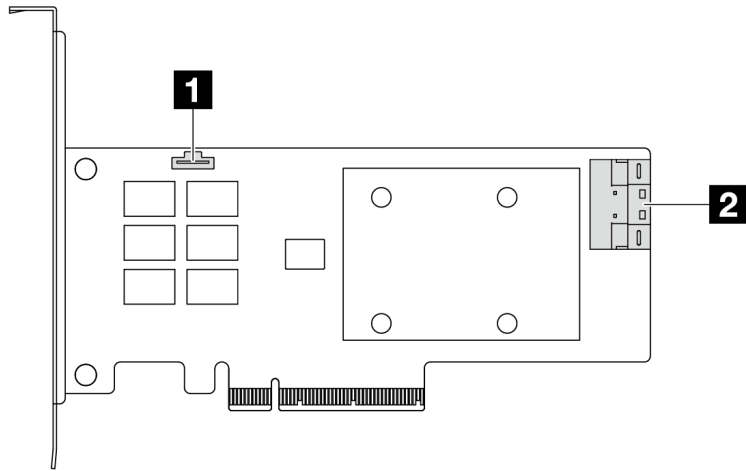

Figure 220. A Gen 4 8i SFF RAID/HBA adapter (one port connector)
- Figure 220 “A Gen 4 8i SFF RAID adapter \(one port connector\)” on page 256